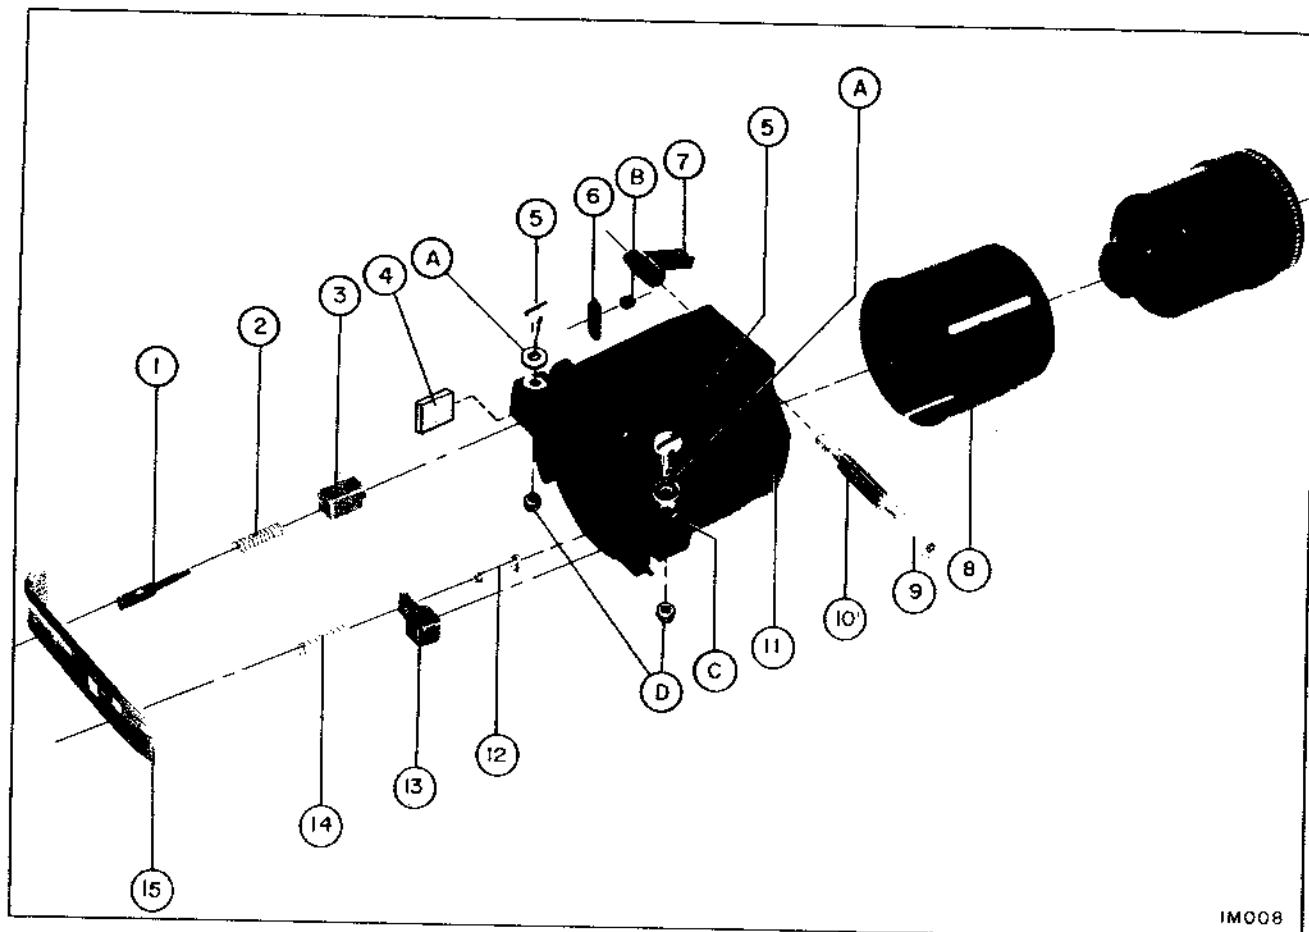

Figure 9
2. Disassemble lens gate as shown in figure 9. Apply a light coat of grease to barrel before reassembly into gate.